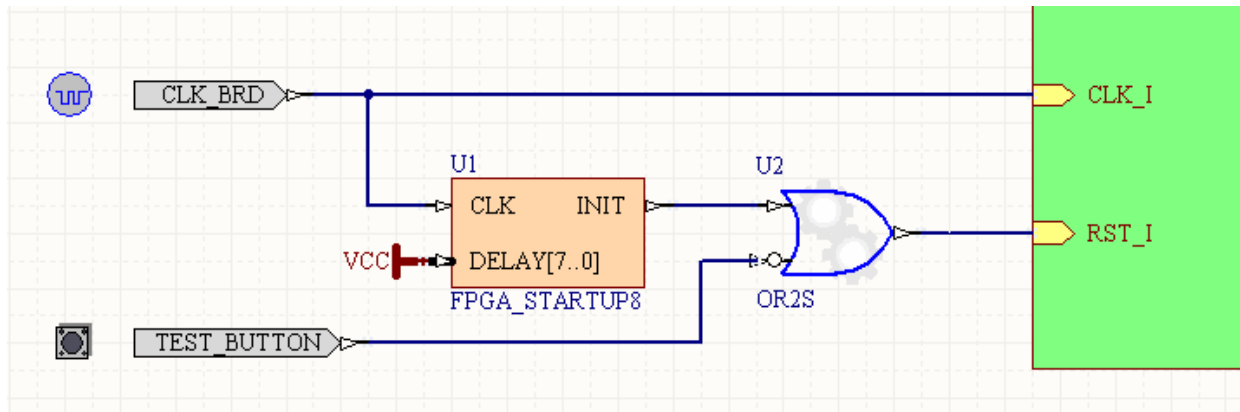

Figure 9. Wire the discrete components.
26. Wire up the components on the left side of the sheet symbol, as shown in Figure 9. Note that the Delay pin on the FPGA_STARTUP8 component is wired to VCC using a VCC Bus Power Port.